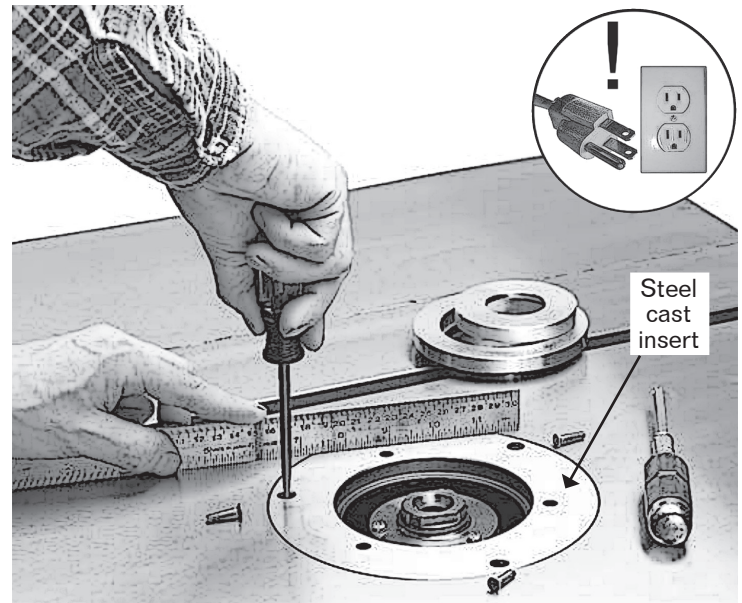

Fig. 9 Leveling table insert.
3. Using a straightedge and a flathead screwdriver, turn the barrel screw clockwise or counterclockwise to level the steel cast insert with the table as shown in Figure 9.